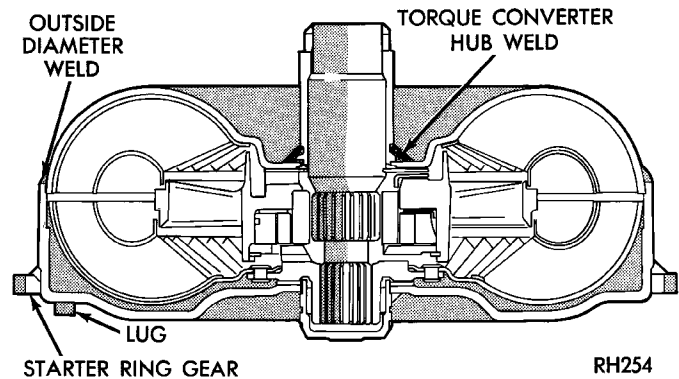

Fig. 11 Converter Leak Points—Typical
- (1) Leaks at the weld joint around the outside diameter weld (Fig. 11).
- (2) Leaks at the converter hub weld (Fig. 11).